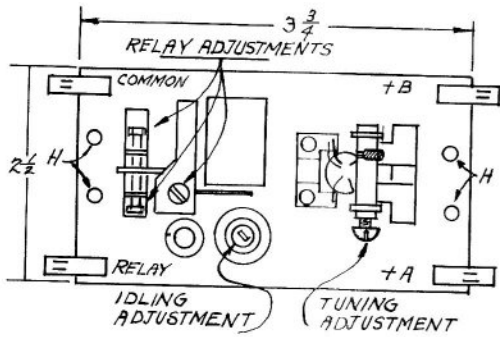

Fig 1
2.1 Recommended mounting is by means of #16 rubber bands through the loops of the Fahnstock clips on both ends of the base. (Figure 2). Holes HH (Figure 1) are provided if the modeler wishes to put an extension (preferably bakelite) onto the chassis to allow mounting with sponge rubber blocks. Also additional rubber bands may be threaded through holes HH for additional support in the event of a crash. Cement a piece of sponge rubber to the bulkhead or any structure in FRONT of the receiver. In case of crash landing, receiver will be cushioned by this rubber.
- 5.3 The wires from both the "A" batteries and "B" batteries should go to the similarly designated connections on the receiver. Top view (Figure 1 and 6). It will be noticed that one terminal (Fahnestock clip) of the receiver is marked "Common". Since it is difficult to put more than one wire in a Fahnestock clip, these wires should be connected at another point as shown in the overall wiring diagram Figure 6. This diagram shows the escapement wiring also and it is convenient to complete this and wire up the escapement (or whatever control mechanism is to be used) so that it may be used as an indicator of the relay in the receiver opening and closing. When the relay in the receiver closed, it will actuate the escapement or control mechanism. Figure 7 shows an alternate wiring using two of the filament batteries to operate the escapement. Since this arrangement will run these two cells down more rapidly, their voltage must be checked frequently.
Connect up and turn on the receiver (may be in the airplane), and plug in the meter. Turn the core marked "Idling Adjustment" (see Figure 1) in or out slightly with the bakelite screwdriver to set the plate current as indicated on the meter to 0.25 m. a. to 0.30 m. a. Two such points may be found, but the adjustment nearest the factory setting of the core should be most sensitive. An alternate method which may be used if your meter will not accurately read 0.25 m. a. is to turn the core in or out until the occasional peaks of plate current trigger the relay (see relay setting) and then turn core in opposite direction to just prevent this. The set will be extremely sensitive under this condition.
Turn on the Transmitter and remove the antenna or else have a helper walk away about 250 yards with the antenna plugged in and adjust the tuning screw (see Figure 1) for maximum plate current rise (see Figure 8) at MAXIMUM DISTANCE. Since maximum rise in plate current is the same with weak or strong signals, simply tuning for maximum with the transmitter close by does not assure best tuning.